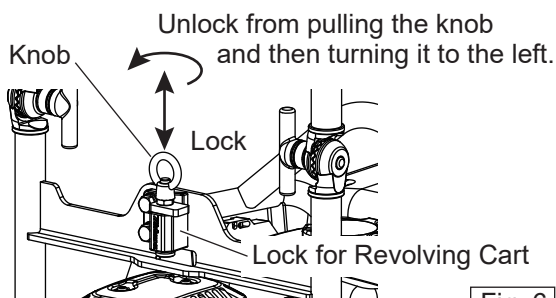

Fig. 6
- Check that the lock for revolving cart lock and unlock certainly. (Fig. 6)